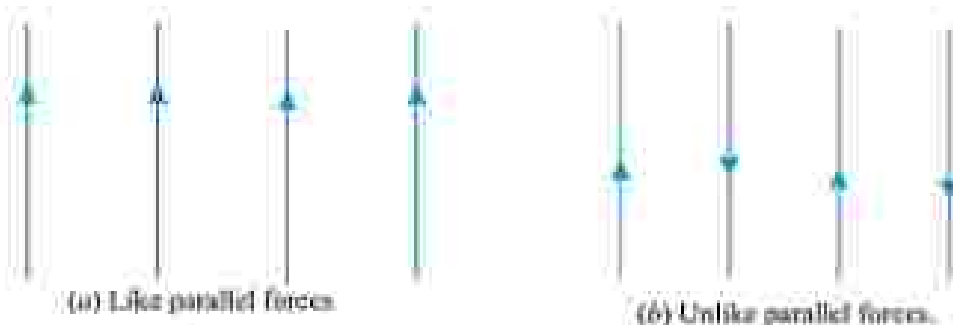

Fig. 1.23
- The forces, whose lines of action are parallel to each other and all of them act in the same direction as shown in Fig. 1.23 (a) are known as like parallel forces.
direction as shown in Fig. 1.23 (b) are known as like parallel forces.